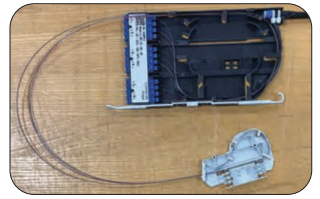

Figure 13
14. Route fibers into base. Position spool to prepare for routing. (Figure 13)